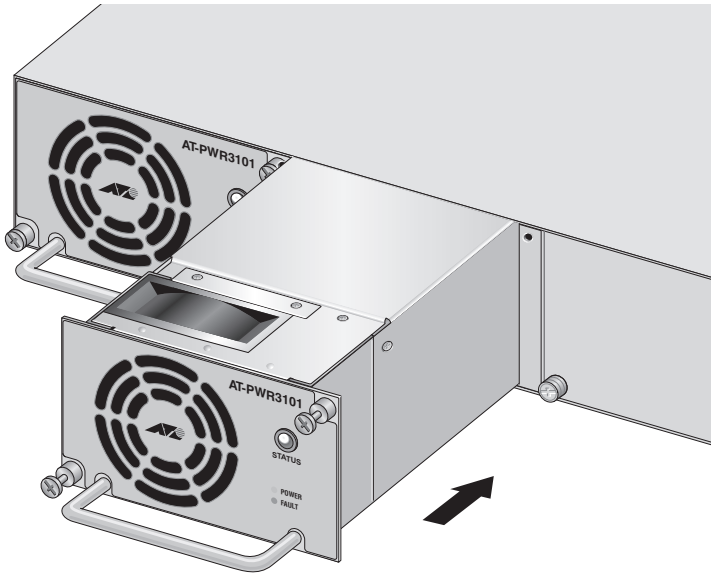

Figure 16. Installing the AT-PWR3101 Module
- Slide the new AT-PWR3101 module into the expansion slot (see Figure 16).